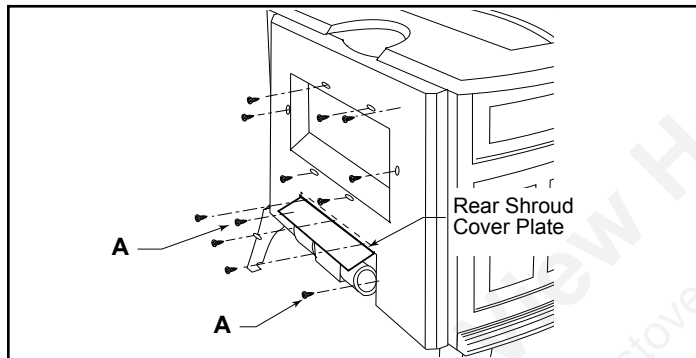

Figure 21 - Attach rear shroud cover plate to the rear shroud.
- Reattach the rear shroud cover plate by fastening it to the rear shroud as shown in Figure 21. The top edge of the cover plate goes inside the rear shroud. Reinstall and tighten the six (6) sheet metal screws around the draft hood opening. ('A', Figure 21) Use two (2) screws from the fan kit to fasten the rear shroud to the fan shield. ('A', Figure 21)